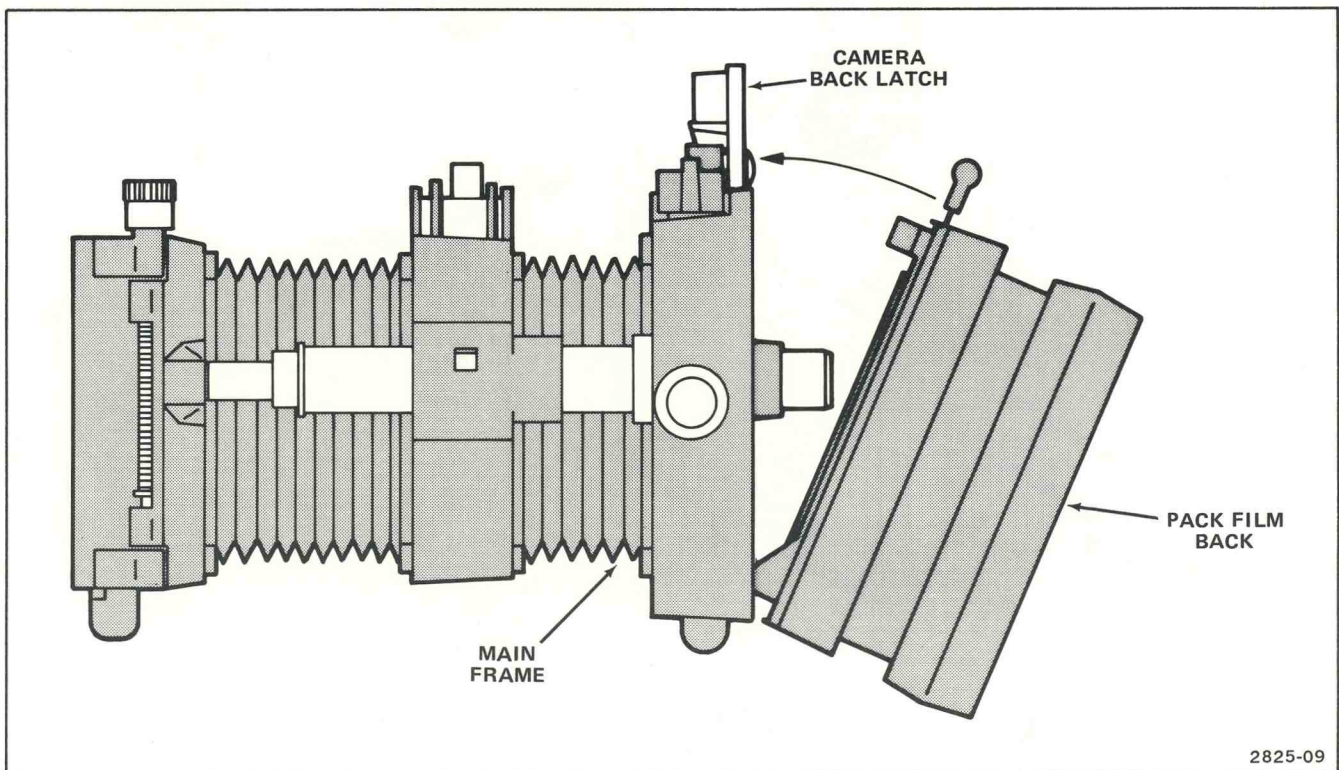

Figure 2-3. Mounting the pack-film back to the camera.
Mounting procedures for each type of camera back (Pack-Film, Roll-Film, and Graflok) are identical. Use the following procedure to attach your camera back to the C-30B. Figure 2-3 shows the example of a Pack-Film back being mounted to the camera main frame.
2. Tilt the camera back as shown in Figure 2-3 until the groove at its bottom is directly over the adapter clip on the main frame.